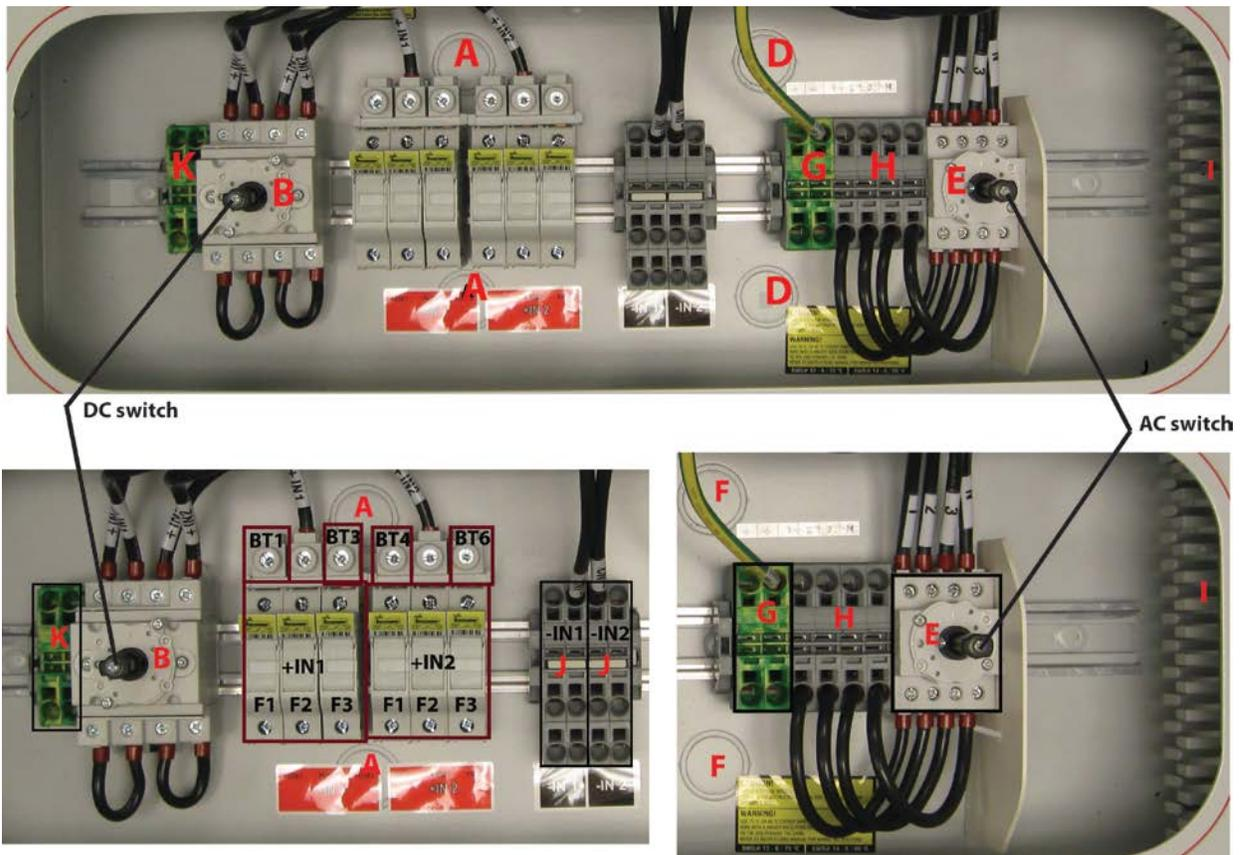

Figure 3.04 - Switchbox, showing internal component locations
- Relevant wiring connections are shown in Figure 3.04
- Connect alarm cable to the mating connector (in hardware kit) and plug connector into position shown in Figure 3.04